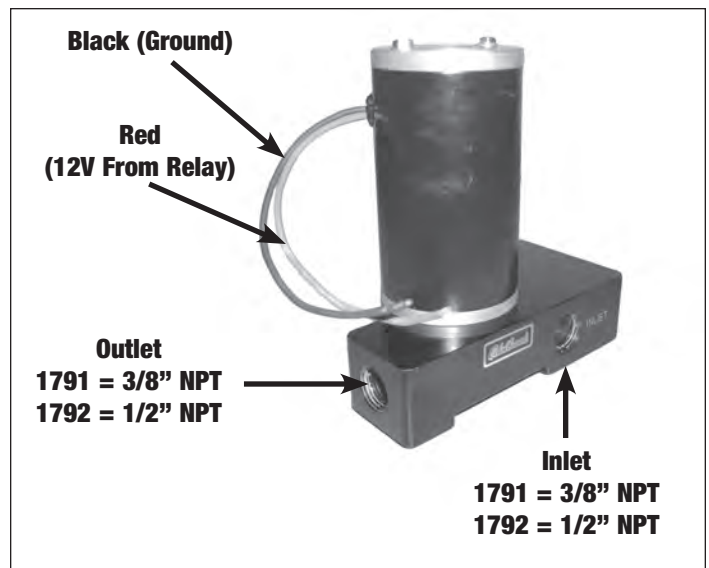

Figure 2 - Fuel Pump
NOTE: These pumps are only designed to push fuel from the rear of the vehicle forward, towards the engine bay. The pump must be mounted below the fuel level or pickup tube inlet for the pump to prime properly on startup. Ideal installation would mount the pump upright as shown in **Figure 2**, but the pump will operate in any orientation.
7. Install the appropriate fittings or use appropriate sized hose ends on your fuel line (**Fuel fittings not included**) (**See Figure 2**). Coat the threads of the fittings with thread sealer before assembly. Pump #1791 features 3/8" NPT inlet and outlet and 1792 features 1/2" NPT threads. See the Russell catalog or visit www.russellperformance.com for a selection of fittings and hose ends.
Connect the **BLACK** wire to a battery ground or good engine/chassis ground, and the **RED** wire to the 12v output from the relay being used (**See Figure 2**). The relay should be wired such that power to the fuel pump is only on when the key is on. See the installation instructions to Universal Fuel Pump Relay #1795 for relay wiring instructions.